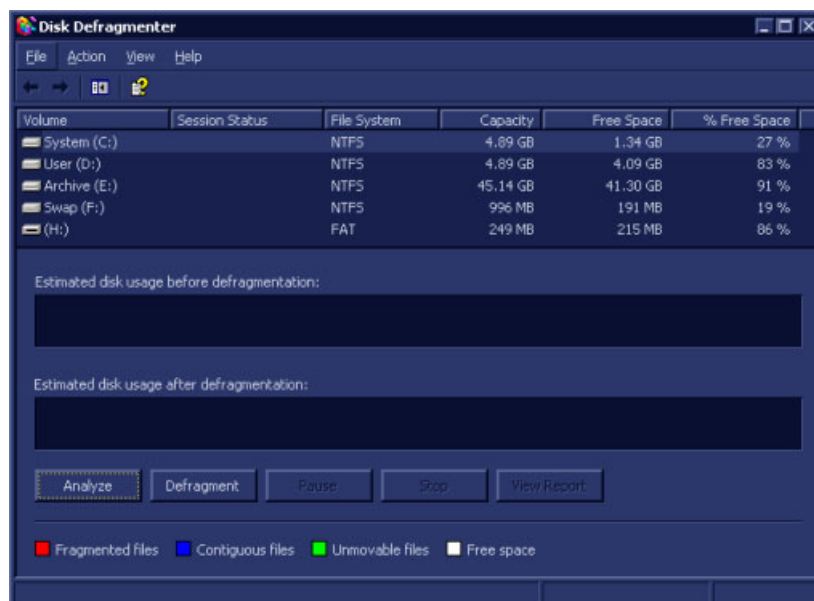

Figure 7-130 Disk Defragmenter
- **Disk Defragmenter** - to invoke Windows disk defragmenter utility - see Figure 7-130.